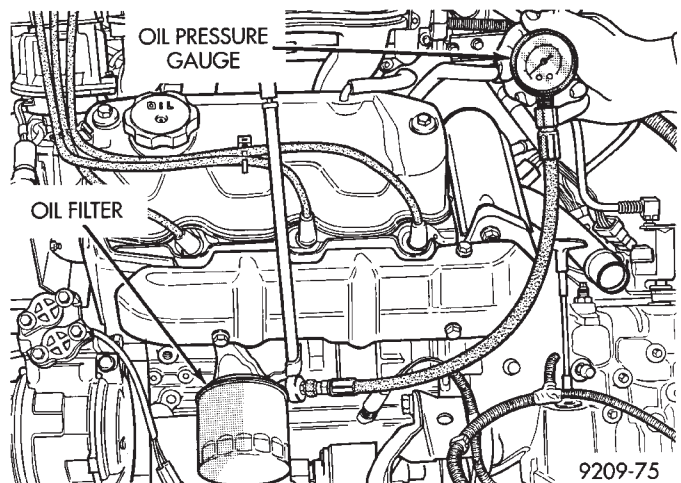

Fig. 11 Checking Oil Pump Pressure
(1) Remove pressure sending unit and install oil pressure gauge. (Fig. 11)